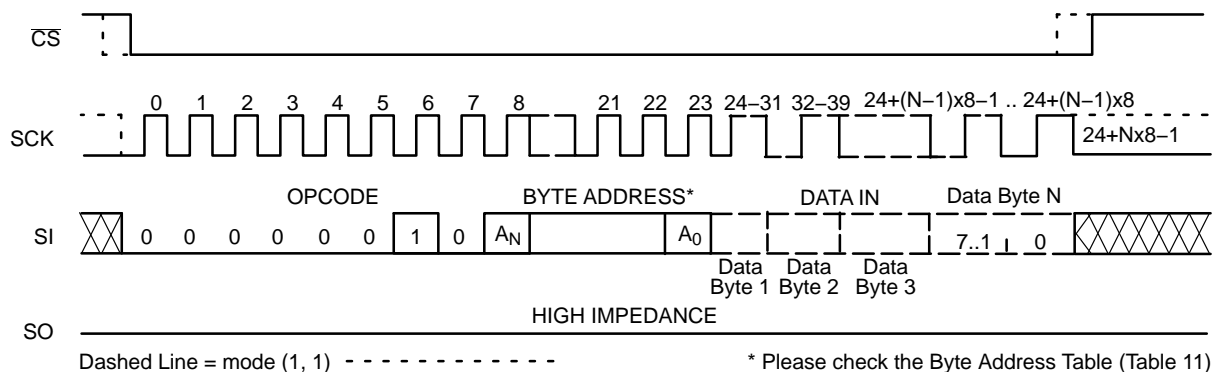

Figure 6. Page WRITE Timing
After sending the first data byte to the CAV25512H, the host may continue sending data, up to a total of 128 bytes, according to timing shown in Figure 6. After each data byte, the lower order address bits are automatically incremented, while the higher order address bits (page address) remain unchanged. If during this process the end of page is exceeded, then loading will “roll over” to the first byte in the page, thus possibly overwriting previously loaded data.
The additional 128-byte Identification Page (IP) can be written with user data using the same Write commands sequence as used for Page Write to the main memory array (Figure 6). **The IPL bit from the Status Register must be set (IPL = 1) using the WRSR instruction, before attempting to write to the IP.**